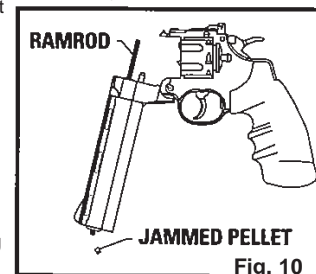

Fig. 10
- If the jam is in the barrel, remove the pellet clip and push the jammed pellet out of the muzzle end of the barrel using a ramrod of the proper size. (Start at the breech.) (Fig. 10) **The barrel could be damaged if the proper sized ramrod is not used.**